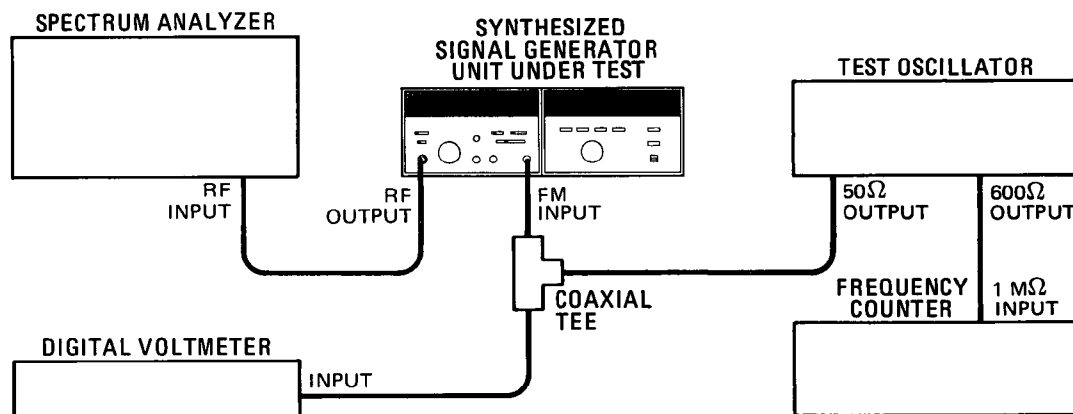

Figure 5-16. FM Adjustments Test Setup
3.    Connect the equipment as shown in Figure 5-16.